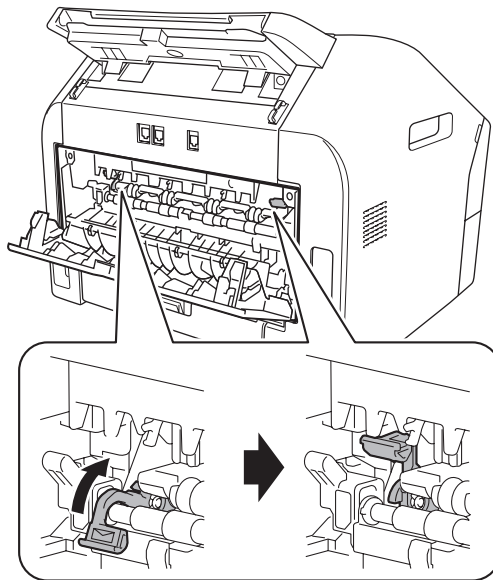

Fig. 2-7
- Turn the green envelope levers in the direction of the black arrow. (Refer to Fig. 2-7.)
- Return the green envelope levers to the home position. (Refer to Fig. 2-7.)